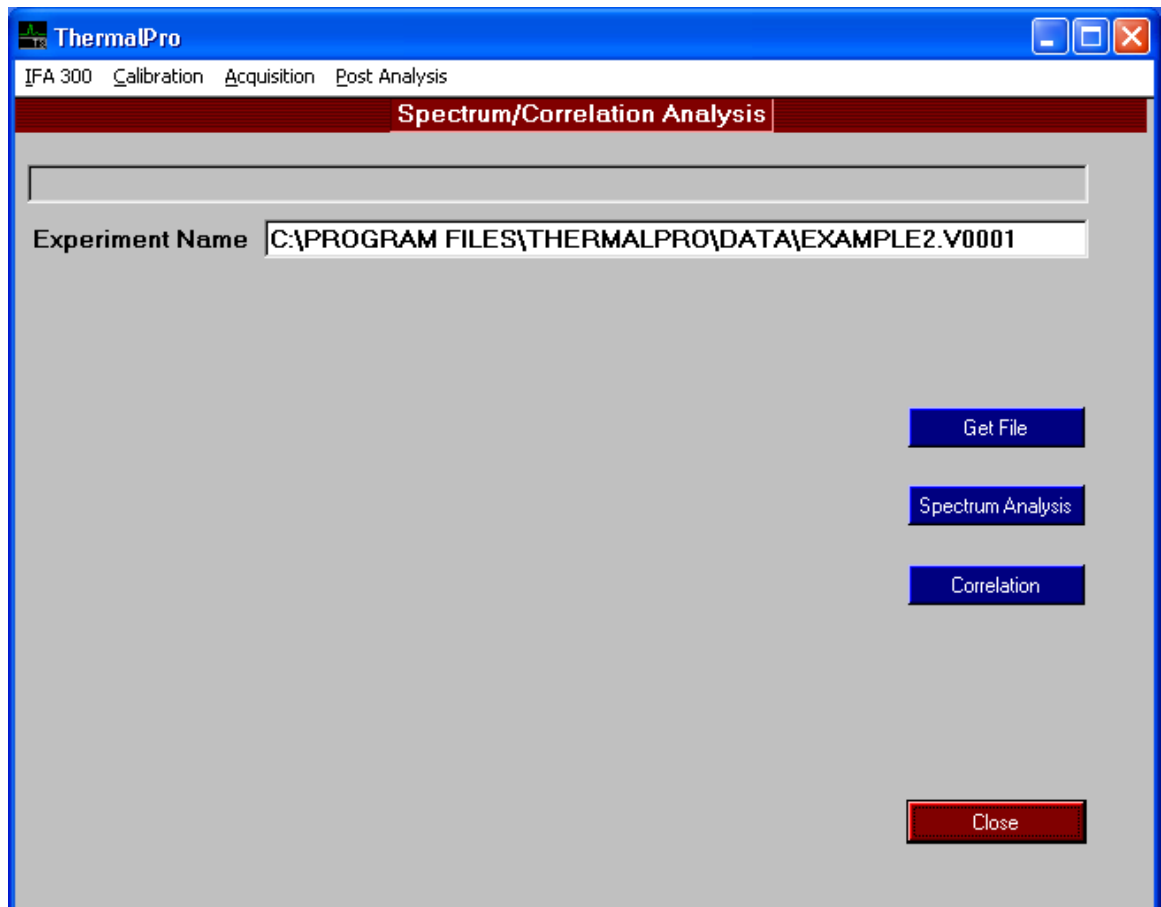

Figure 7-12
1. Select **Post Analysis** from the main menu and then **Spectrum/Correlation**. The screen shown in Figure 7-12 appears.